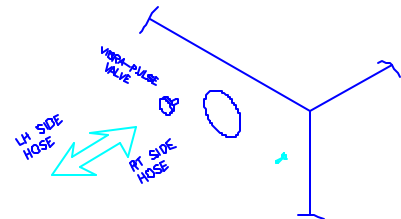

Figure 12.
3. **PRESS** and hold the pulse cleaning button in for 5 - 10 seconds. Next, **PULL** the button outwards for 5 - 10 seconds. This will clean the other side of the filter. Repeat this process 2 or 3 times. See Figure 12.